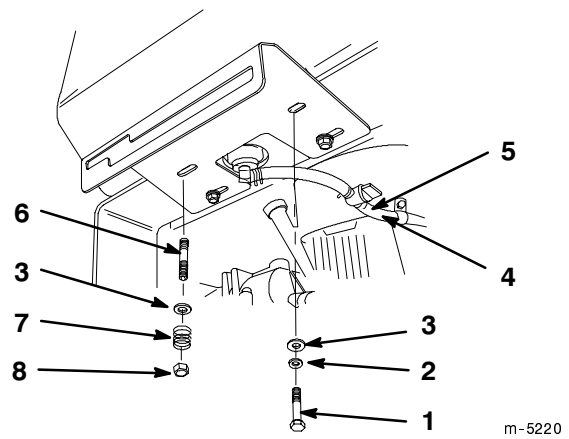

Figure 4
- Secure the right side control panel and fuel tank to the rear frame (Fig. 4) with 2 bolts (5/16 x 7/8 in.), lock washers (5/16 in.) and washers (5/16 in.) (Fig. 4).
- Secure the left side control panel and fuel tank to the rear frame (Fig. 4) with 2 studs, washers (5/16 in.), springs and locknuts (5/16 in.) (Fig. 4).